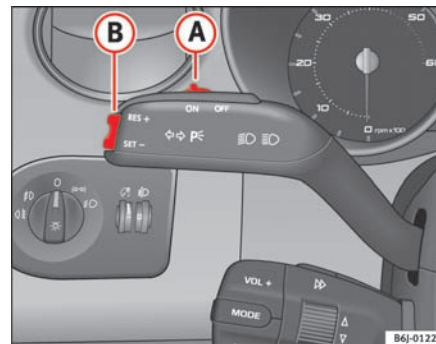

Fig. 102 Turn signal and main beam headlight lever switch and rocker switch for the cruise control
- Press the lower part **SET** of the rocker switch ⇒ fig. 102 (B) once briefly when you have reached the speed you wish to set.